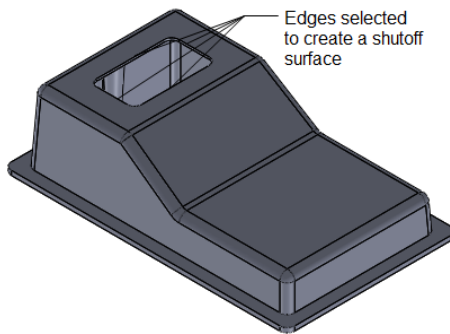
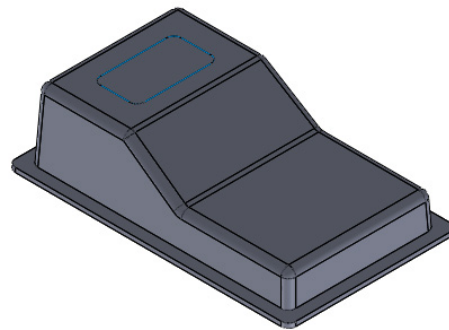

Figure 21-37 Edges selected to create a shutoff surface
Figure 21-38 Model after creating the shutoff surface
- Create the shut off surfaces, refer to Figures 21-37 and 21-38.
4. Invoke the **Planar Surface** tool and select the edges, as shown in Figure 21-37. Next, create the shutoff surface and then close the **Planar Surface PropertyManager**. Model after creating the shutoff surface using the **Planar Surface** tool is shown in Figure 21-38.